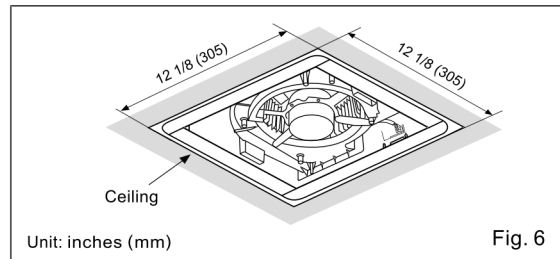

Fig. 6
8. Finish ceiling work. Ceiling hole should be aligned with the edge of the flange. (Fig. 6)
- (2) Inspect duct work and wiring before proceeding with installation.
- (3) Plan suitable location for ventilating fan. (next to ceiling joist)
- (4) Before installation, provide inspection and maintenance access at a location that will not interfere with installation work shown in installation II.
- (5) First, remove ceiling section according to Fig. 6 of page 8.
- (6) Install ventilating fan.
- (1) Inspect duct work and wiring before proceeding with installation.
- (2) Remove ceiling section according to Fig. 6 of page 8.
- (3) Install ventilating fan.